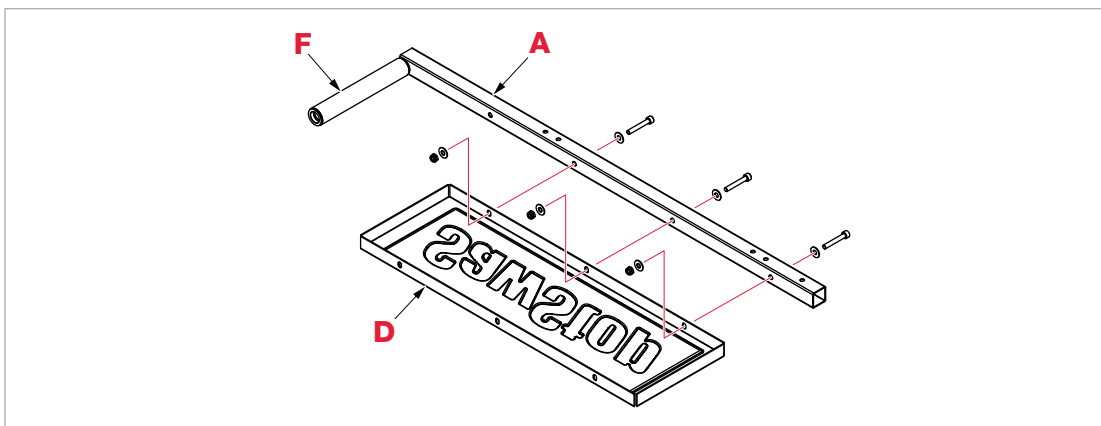

Fig. 6
- 3 Place the insert table (**D**) between the table tubes (**A**), with the text on the bottom, so the three mounting holes in the side of the insert table line up with the three insert table mounting holes in the table tube attached to the large table roller (see Fig. 6).